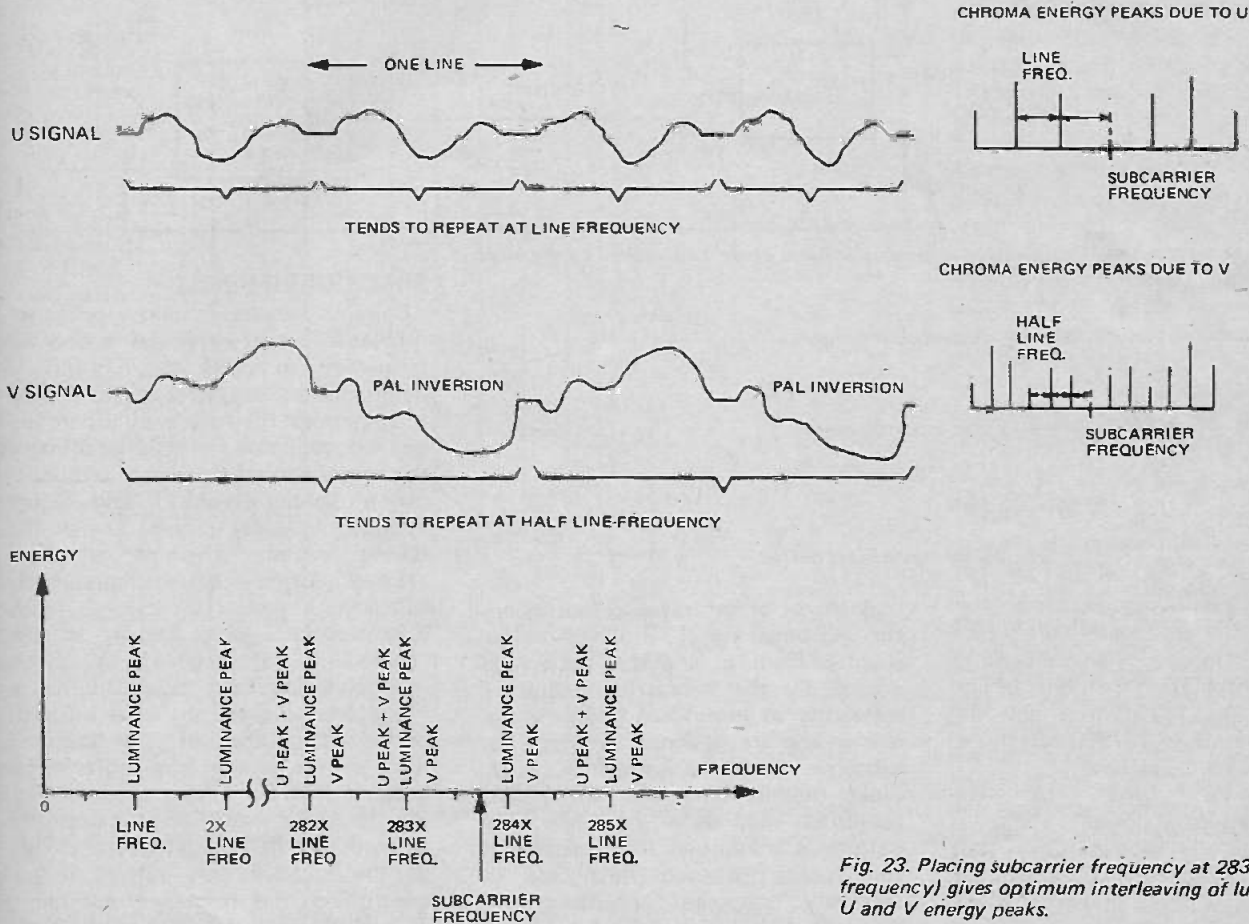

Fig. 23. Placing subcarrier frequency at 283.75 (line frequency) gives optimum interleaving of luminance, U and V energy peaks.
4. Since one of the colour-difference signals ('V') is reversed (or 'modulated' by) half line-frequency in the PAL system, the chroma energy peaks due to V alone are at steps of only half line-frequency either side of subcarrier frequency — see Fig. 23. To separate these peaks from the luminance peaks a better choice of subcarrier is  $283.75 \times$  (line frequency).